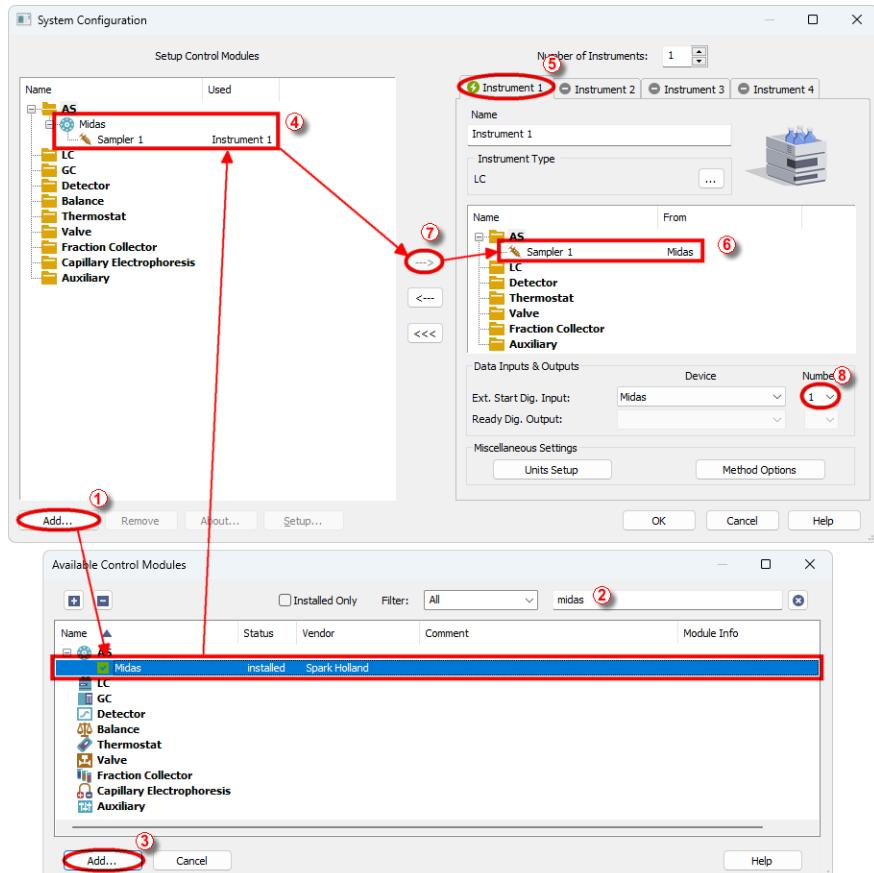

Fig. 5: System Configuration
- Press the **Add** button ① (see Fig. 5 on pg. 6.) to invoke the **Available Control Modules** dialog.
- You can specify the searching filter ② to simplify the finding of the driver.
- Select the **Midas** sampler and press the **Add** ③ button.